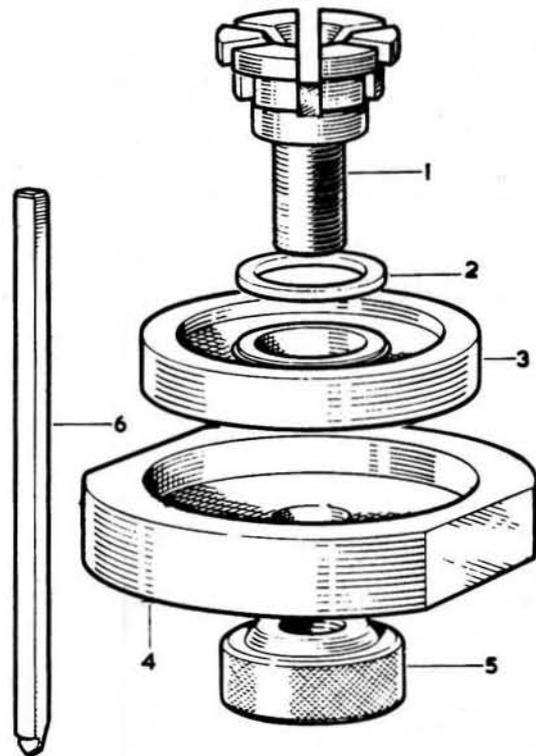

FIG.5.20. SPECIAL TOOL SSC 805
- 14 The centrally mounted release plate is held in position by a centre sleeve which passes through the diaphragm spring and the bellville washer into the release plate. To free the plate, collapse the centre sleeve with a hammer and chisel as shown in Fig.5.11. Support the release plate in the locating boss of the special tool, shown at Fig.5.20, which should be held firmly in a vice.
34 The pressure plate must now be fitted and for this a special tool is required. The tool number is SSC805 and it can be obtained from Automotive Products Ltd, Service and Spares Division, Banbury, England. The tool is shown in Fig.5.20 for information.